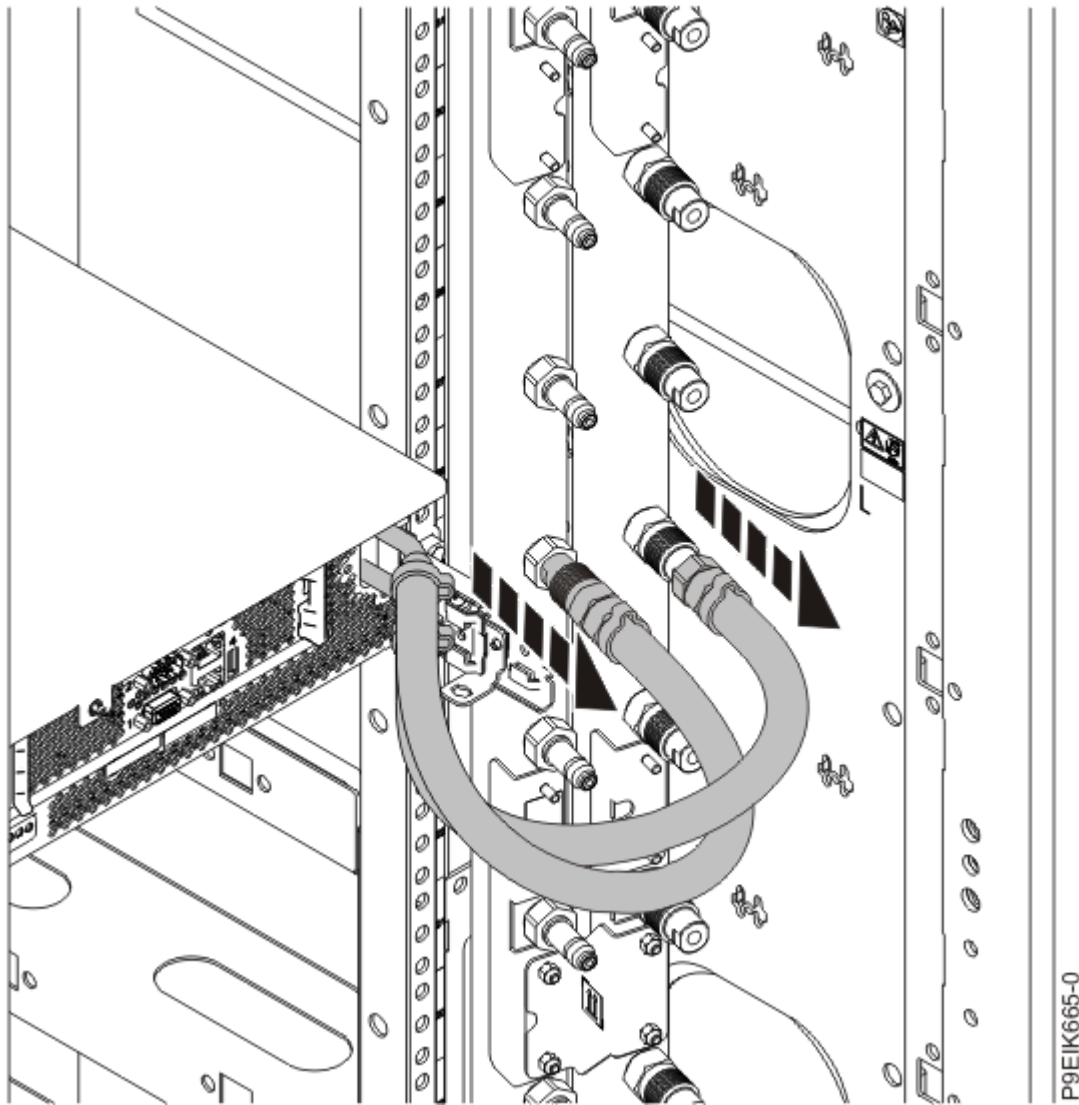

Figure 183. Disconnecting the water hoses
2. For a water-cooled system, label and disconnect the water hoses at the manifold. Pull the coupling toward you to disconnect the water hoses as shown in Figure 183 on page 211.